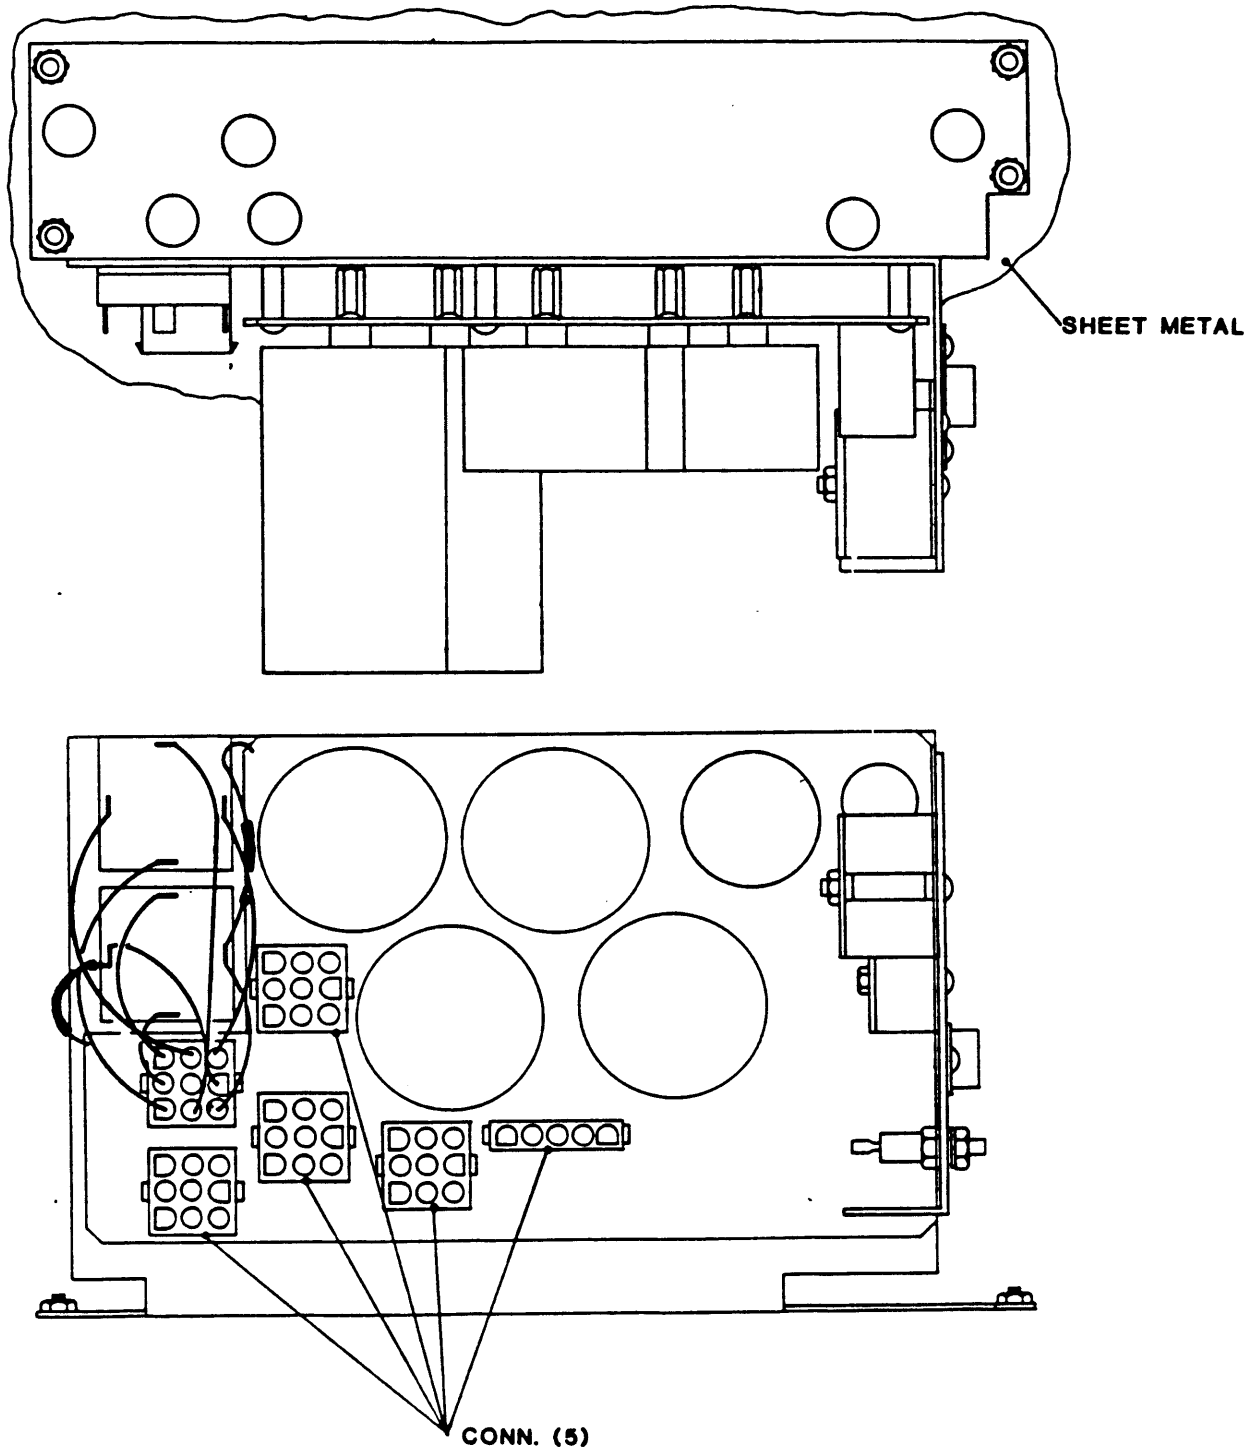

Figure 4-14 5 VDC Regulator Power Supply
4.3.16 5 VDC REGULATOR POWER SUPPLY (Fig. 4-14)
1. Unplug the five connectors shown in Figure 4-14 from the Power Supply: Tag each connector for identification as you disconnect it, noting its mating receptacle.